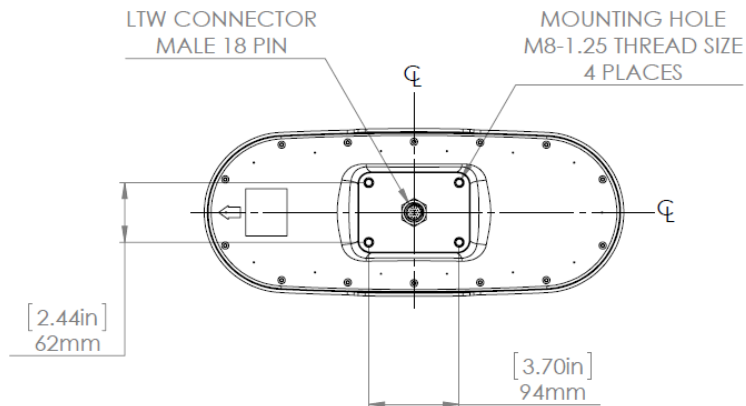

Figure 6 -Surface mount hole measurements
- 1) Use the mounting gasket as your drill template to drill the holes to surface mount the antenna. You may also refer to Figure 6 for the hole measurements.